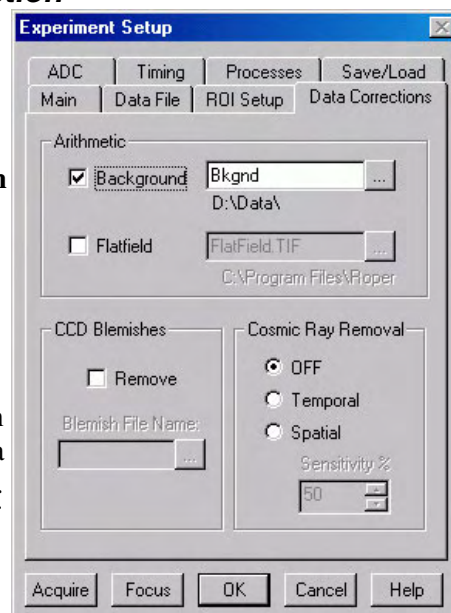

Figure 93. Data Corrections tab page
To acquire a background with the shutter open, or if the Acquire Background feature is too restrictive in some other way, a background file can be collected as a normal data file. Once the file is collected and stored, enter the filename in the Background Subtract filename box on the **Experiment Setup Data Corrections** tab page (see Figure 93).
2. Click on the **Data Corrections** tab. The Data Corrections tab page will be selected (Figure 93).
If the Acquire Flatfield feature is found to be too limiting in some way, a flatfield file can be collected as a normal data file. Once the file is collected, enter the filename in the Flatfield Correction filename box on the Experiment Setup Data Corrections tab page see (Figure 93).
2. Click on the Data Corrections tab to select the Data Corrections tab page (Figure 93).